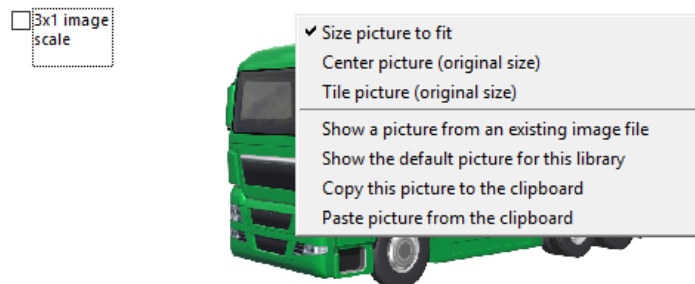

Figure 2. Options for setting and adjusting the image for a vehicle dataset.
- ⑤ Image of vehicle. When you change the link to the animator dataset ③, the associate image from that dataset is shown here. You can also specify an alternate image by clicking on the image to display a drop-down list of options (Figure 2). See the *VS Browser Reference Manual* for details about these options.